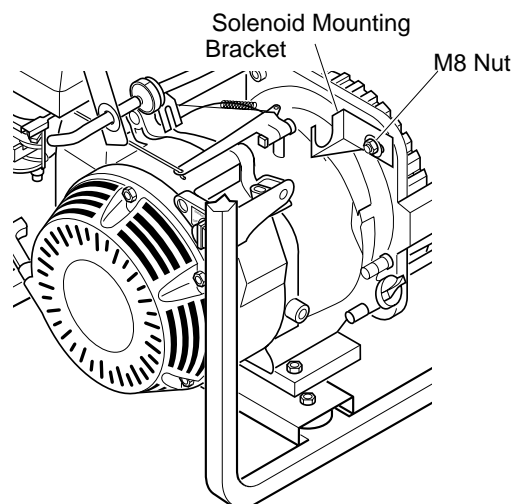
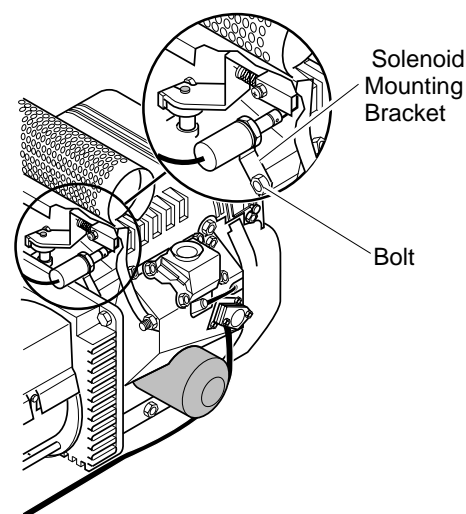

Figure 27 - Solenoid Bracket Location, Models MGH4000CI, MGH5000DI, MGH5000DIE, MGH6000DI, and MGH7000D Only
Figure 28 - Solenoid Bracket Location, Model MGH10000A Only
4. Loosen the M8 nut that holds the solenoid mounting bracket to the generator (Models MGH4000CI, MGH5000DI, MGH5000DIE, MGH6000DI, and MGH7000DI. See Figure 27). Do not loosen bolt that holds the solenoid mounting bracket to the generator on Model MGH10000A (see Figure 28).
7. After reaching proper idle speed, tighten M8 nut to secure solenoid mounting bracket (Models MGH4000CI, MGH5000DI, MGH5000DIE, MGH6000DI, and MGH7000DI (see Figure 27).